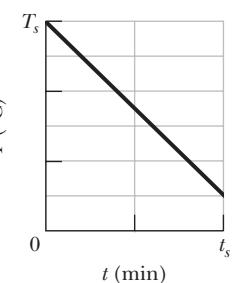

Figure 18-52 Problem 71.
**71** A 0.300 kg sample is placed in a cooling apparatus that removes energy as heat at a constant rate of 2.81 W. Figure 18-52 gives the temperature  $T$  of the sam-